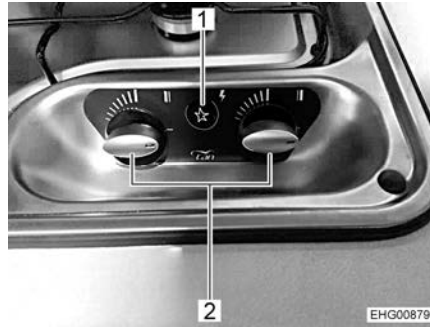

Fig. 180 Operating controls for gas cooker
- Turn the control knob (Fig. 180,2) on the burner you wish to use to the ignition position (large flame).
- Press the push button (Fig. 180,1). Ignition sparks are generated at the burner.